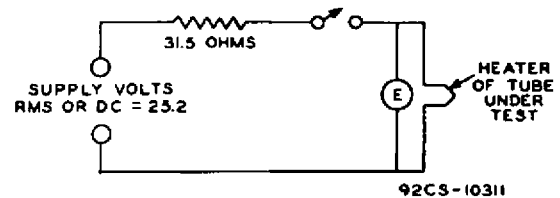

Fig. 1 - Test Circuit for Determining Heater Warm-up Time.
Heater warm-up time is defined as the time required in the test circuit shown in Fig.1 for the voltage (E) across the heater terminals to increase from zero to 5 volts.